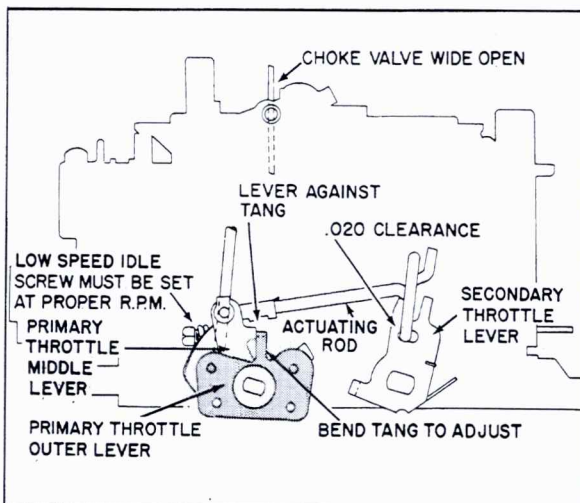

Fig. 6-90 Secondary Throttle Adjustment
93. Secondary Throttle Closing Adjustment (On Car) (Fig. 6-90)
2. There should be .020 clearance between actuating rod and front of slot in secondary throttle lever as shown in Fig. 6-90, when primary throttle middle lever is against tang of primary throttle outer lever.